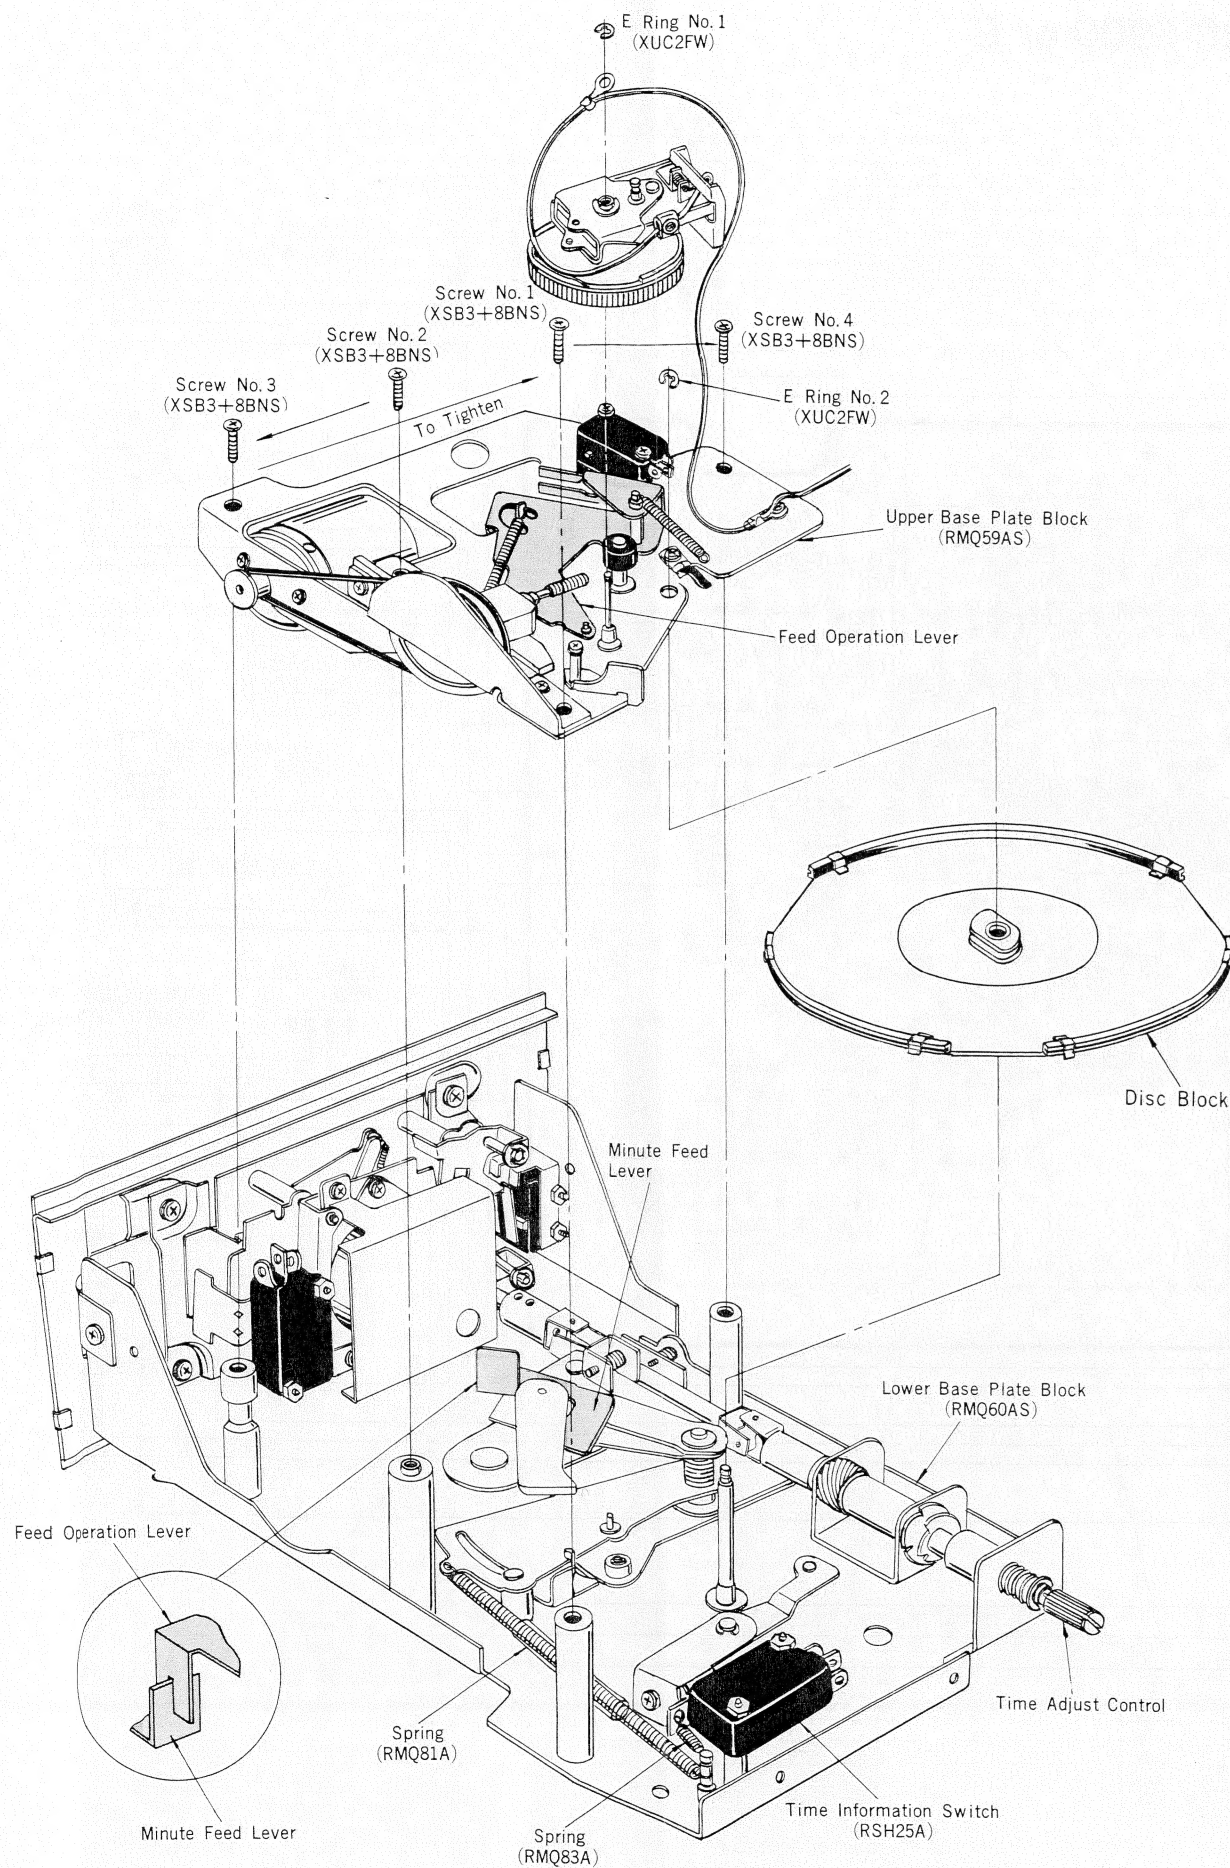

Fig. 11
1. Remove screws 1~4 holding the upper base plate, as shown in fig. 11.
2. Remove E ring 2 holding the upper base plate, as shown in fig. 11.
- (1) Fit the feed operation lever, shown in fig. 11 (upper base plate block), to the minute feed lever (lower base plate block), as shown in fig. 11A.
- (2) Install the screws holding the upper base plate in the order of 2-3-1-4, as shown in fig. 11.
- (3) Install E ring 2 holding the upper base plate, as shown in fig. 11.
- (4) Adjust the magnetic disc guide so that it is apart from the magnetic disc by 0.5~1 mm.
1. Remove screws 1~4 holding the upper base plate block, as shown in fig. 11.
2. Remove E ring 2 holding the upper base plate block, as shown in fig. 11.
1. Remove the upper base plate block attaching screws, 1 to 4, as shown in fig. 11.
2. Remove upper base plate block attaching E ring 2, as shown in fig. 11.